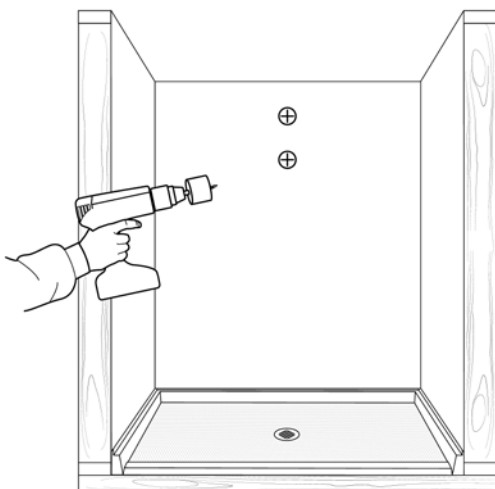

figure 10
6. Measure and mark locations of fittings on the finished side of the panel. Recheck locations and drill $\frac{1}{4}$ " pilot holes. Cut holes to final size using the appropriate size hole saw. **Note:** Do not use excessive pressure when cutting panels. (see figure 10)